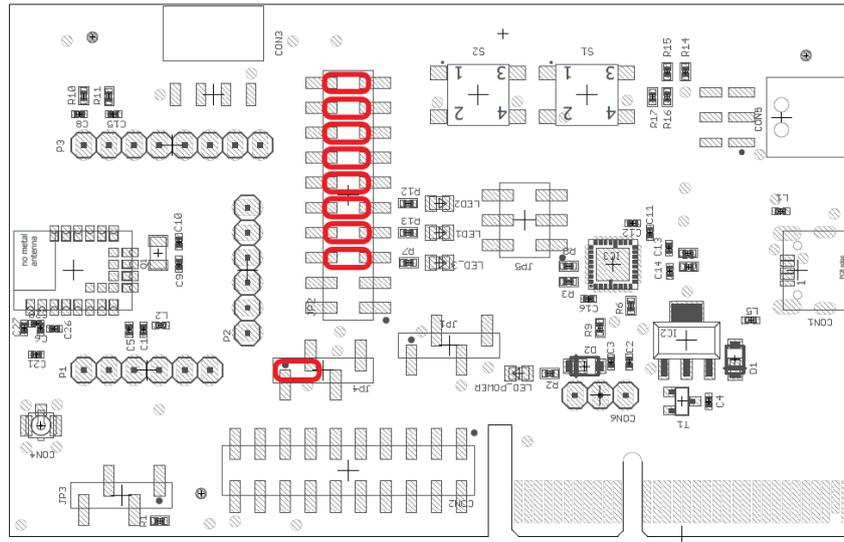

Figure 2: Default jumper placement of the Proteus-III EV-Board. Red means "jumper must be set".
- the Proteus-III EV-Board with jumpers set as specified in figure 2. Other jumpers not set.